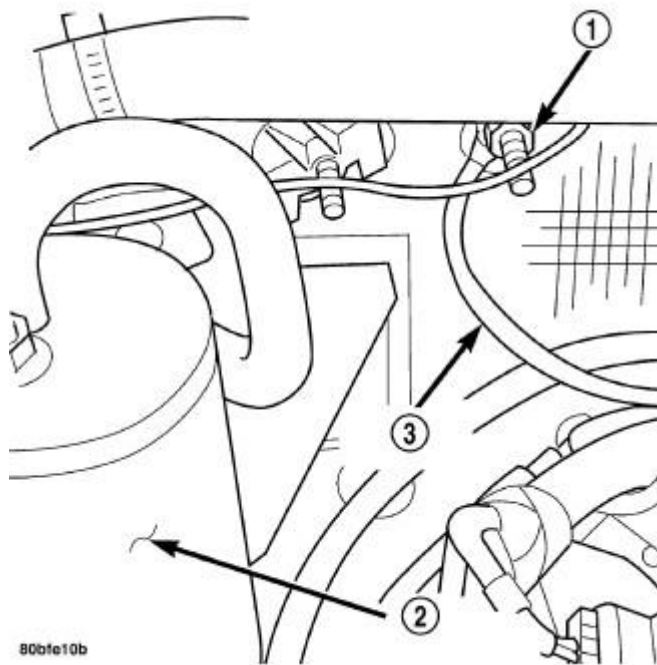
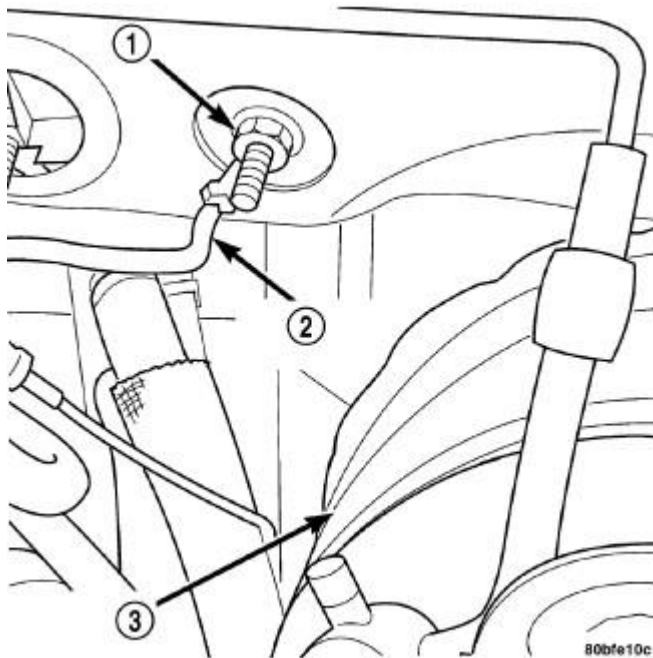

Fig. 10: Removal/Installation Body Ground Strap-Right Side
Fig. 11: Removal/Installation Body Ground Strap-Left Side
35. Remove the ground straps from the left (2) and right. Refer to **Fig. 11**. (3) side of the block. Refer to **Fig. 10**.